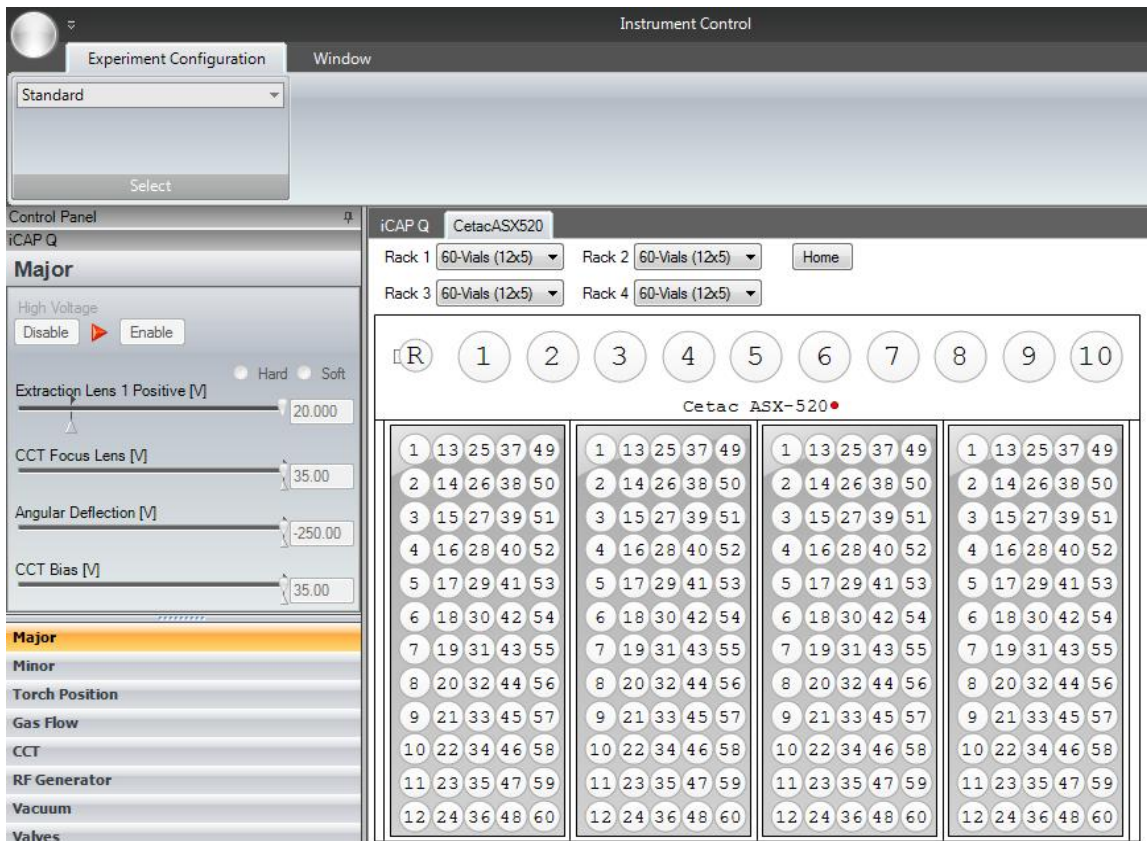

Figure 39: Autosampler control.
- Using Qtegra, open the **Instrument Control** software and select your new **Experiment Configuration** from the drop down list. Next, select the **CetacASX520** hardware tab. Here you can verify the configuration by manually moving to positions, by simply clicking on the vial you desire. See Figure 39.